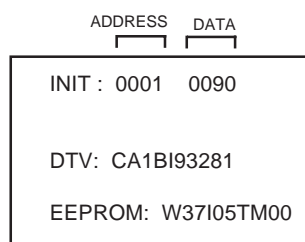

FIG. 2
3. Press both VOL. DOWN button on the set and Channel button **(6)** on the remote control for more than 2 seconds. ADDRESS and DATA should appear as **FIG 2**.